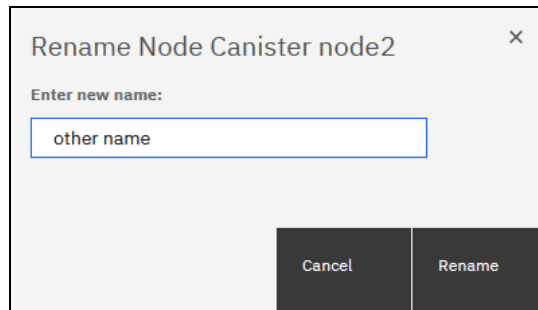

Figure 4-113 Entering the new name of the node
2. Enter the new name of the node and click **Rename** (see Figure 4-113).